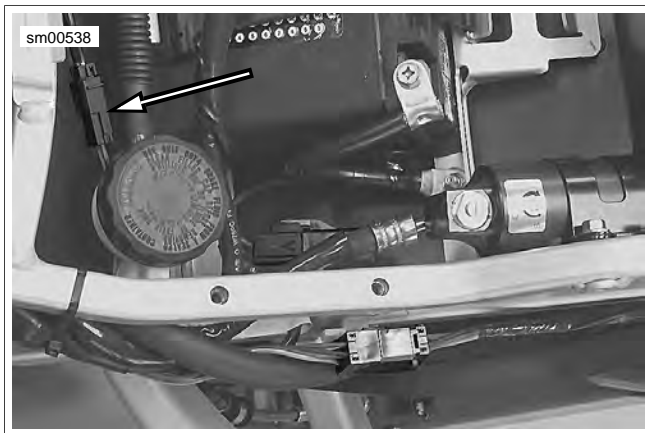

Figure 2-74. Brake Line Switch Connector: Firebolt
3. See Figure 2-74. Disconnect brake light connector from under seat in the front of the battery.
4. See Figure 2-74. Connect brake light switch connector beneath seat.